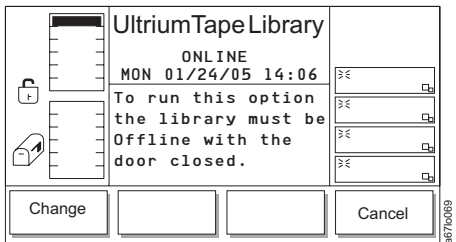

Figure 4-156. Library Submenu
- Press the button below the **Library** softkey. The Library Submenu displays (see Figure 4-156).